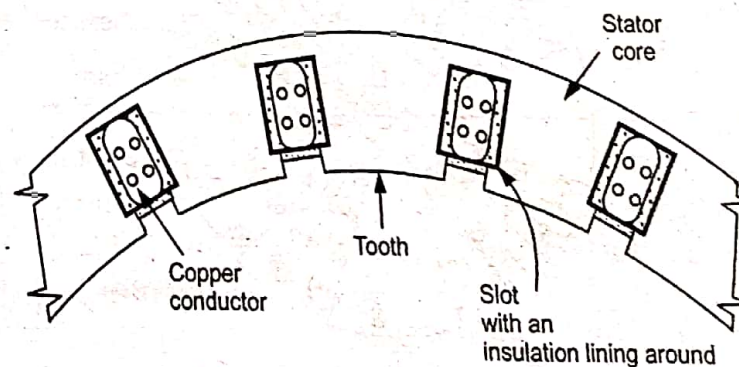

Fig. Q.71.1 Section of an alternator stator
- The section of an alternator stator is shown in the Fig. Q.71.1.